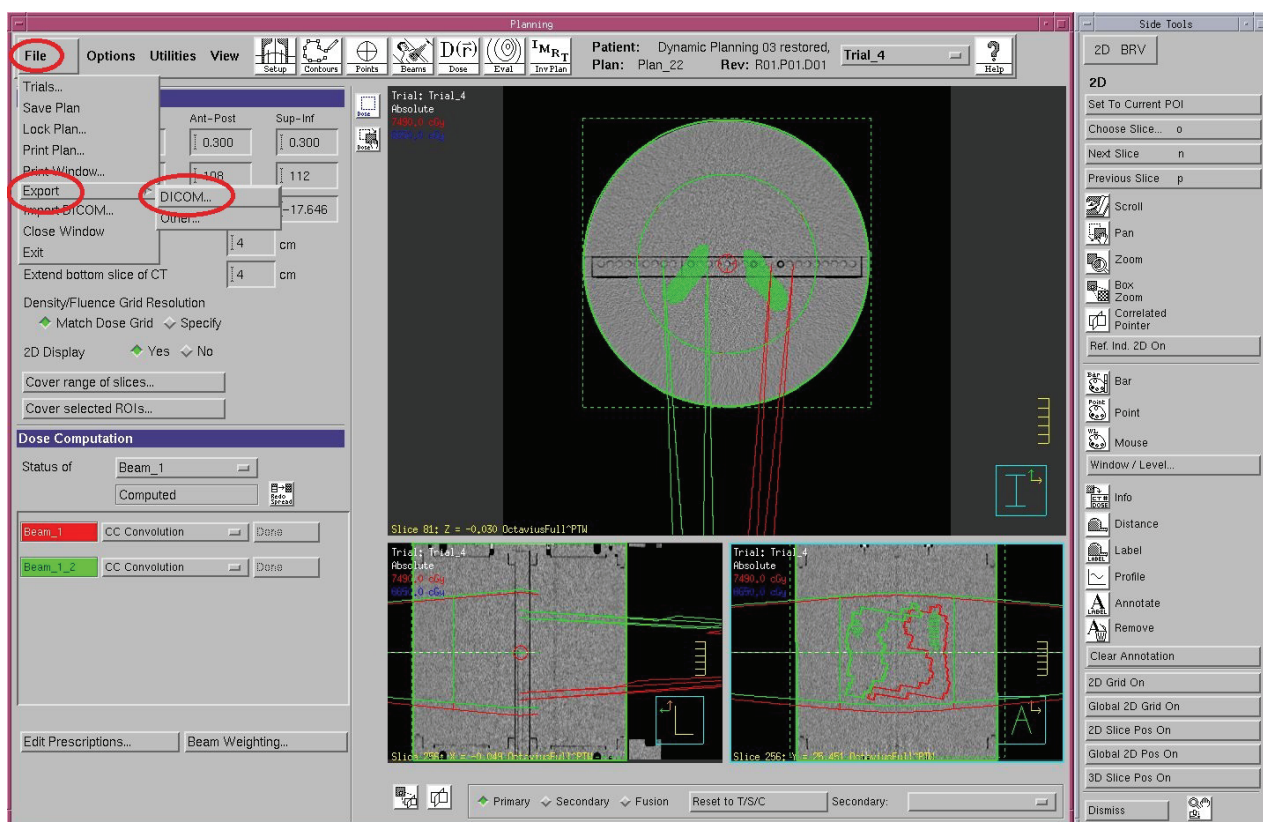

Fig. 4.9 DICOM export
5. From the **File** menu, select **Export** and then **DICOM** to proceed with the plan RTDose and RTPlan export (Figure 4.9). The **DICOM Export** window appears.